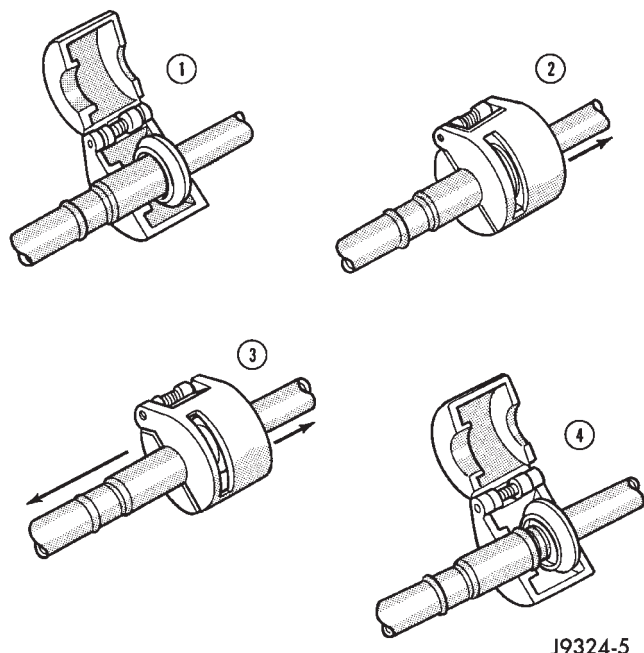

Fig. 20 Spring Lock Coupler Disconnect
(1) Recover the refrigerant from the refrigerant system as described in this group.
(2) Remove the secondary clip from the coupler. Fit the appropriate spring lock refrigerant line coupler tool from the A/C Tool Kit (Special Tool 6125) to the coupler (Fig. 20).